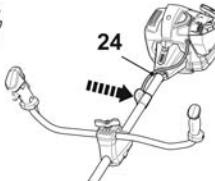

Fig. 3
- > Attach the control cable [24] against the suspension support (Fig. 3).